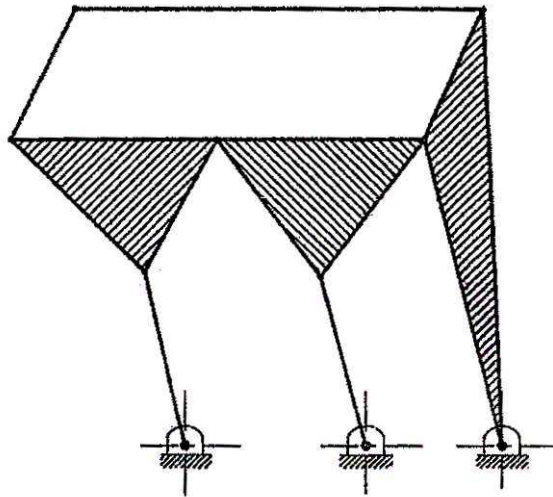

Fig. 1
- (3) Piston and cylinder of a reciprocating steam engine forms a :
- (4) When three links are joined by a single pin, Joint(s) must be counted.
- (d) Fig. 1 shows schematic of a mechanism. Redraw the free-hand sketch on the answer-book. Find out the total number of kinematic links and number of kinematic pairs. Hence find out the DOF for the mechanism. [5]